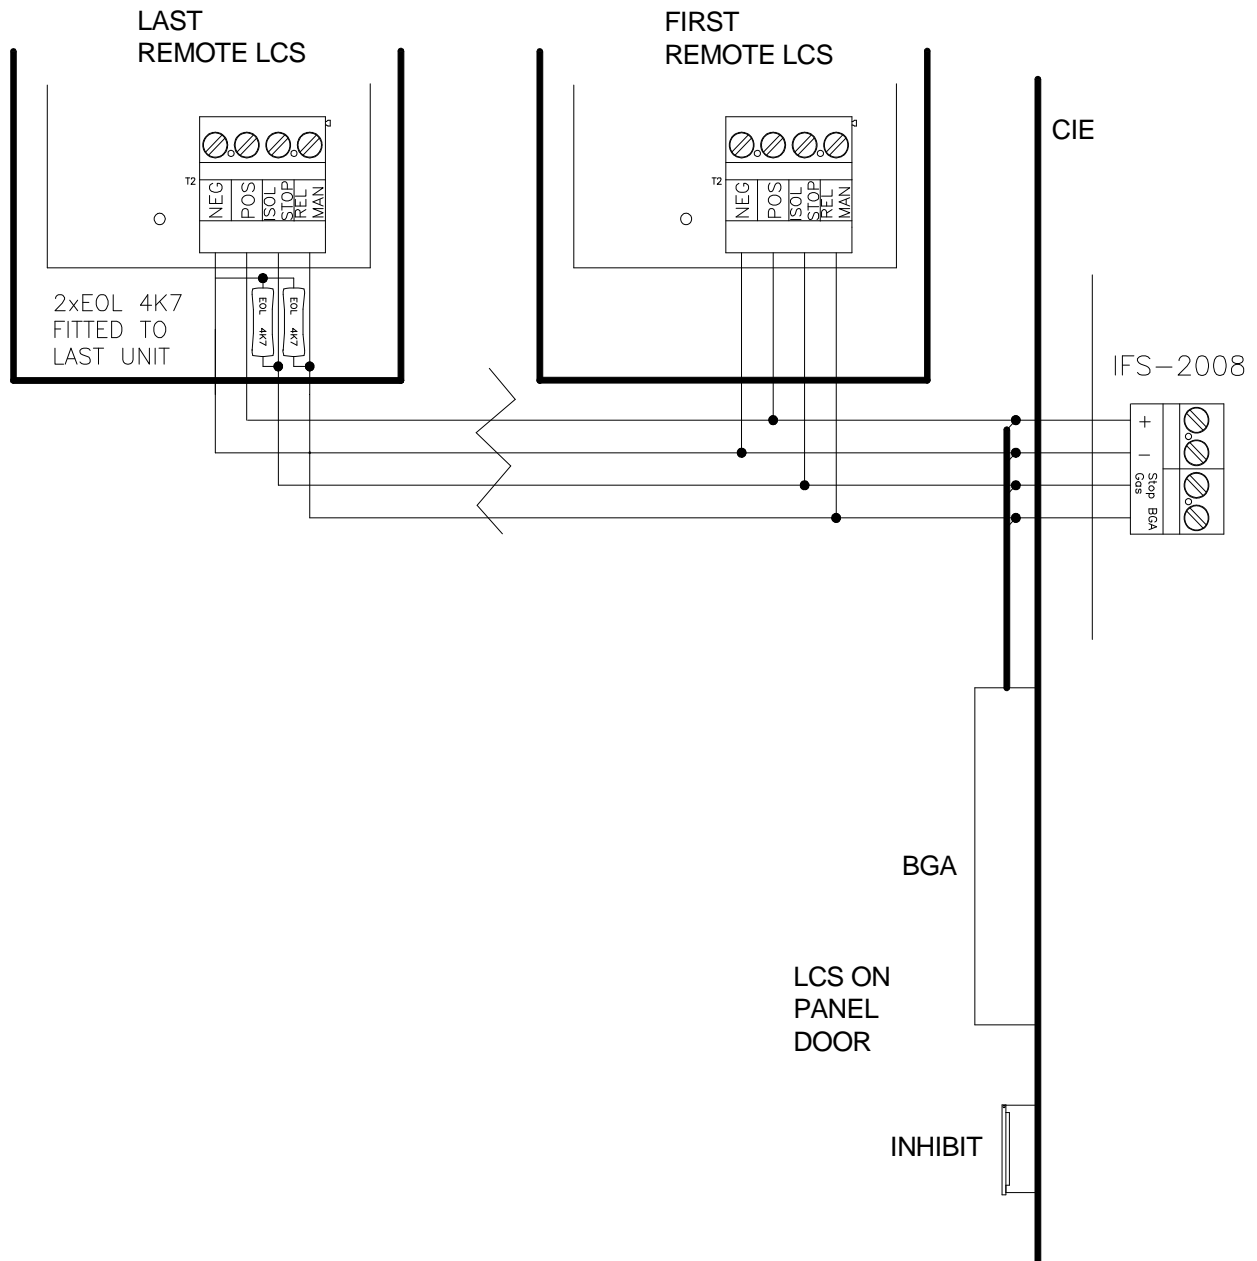

Figure 2 - Wiring Diagram
2. Wire the four lines between the LCS to the gas module as shown in Figure 2. If there is more than one LCS on the system, wire from the agent release card to the first LCS, then from the first LCS to the second LCS and so on. Only have the end of line (EOL) resistors installed on the last LCS on the line.